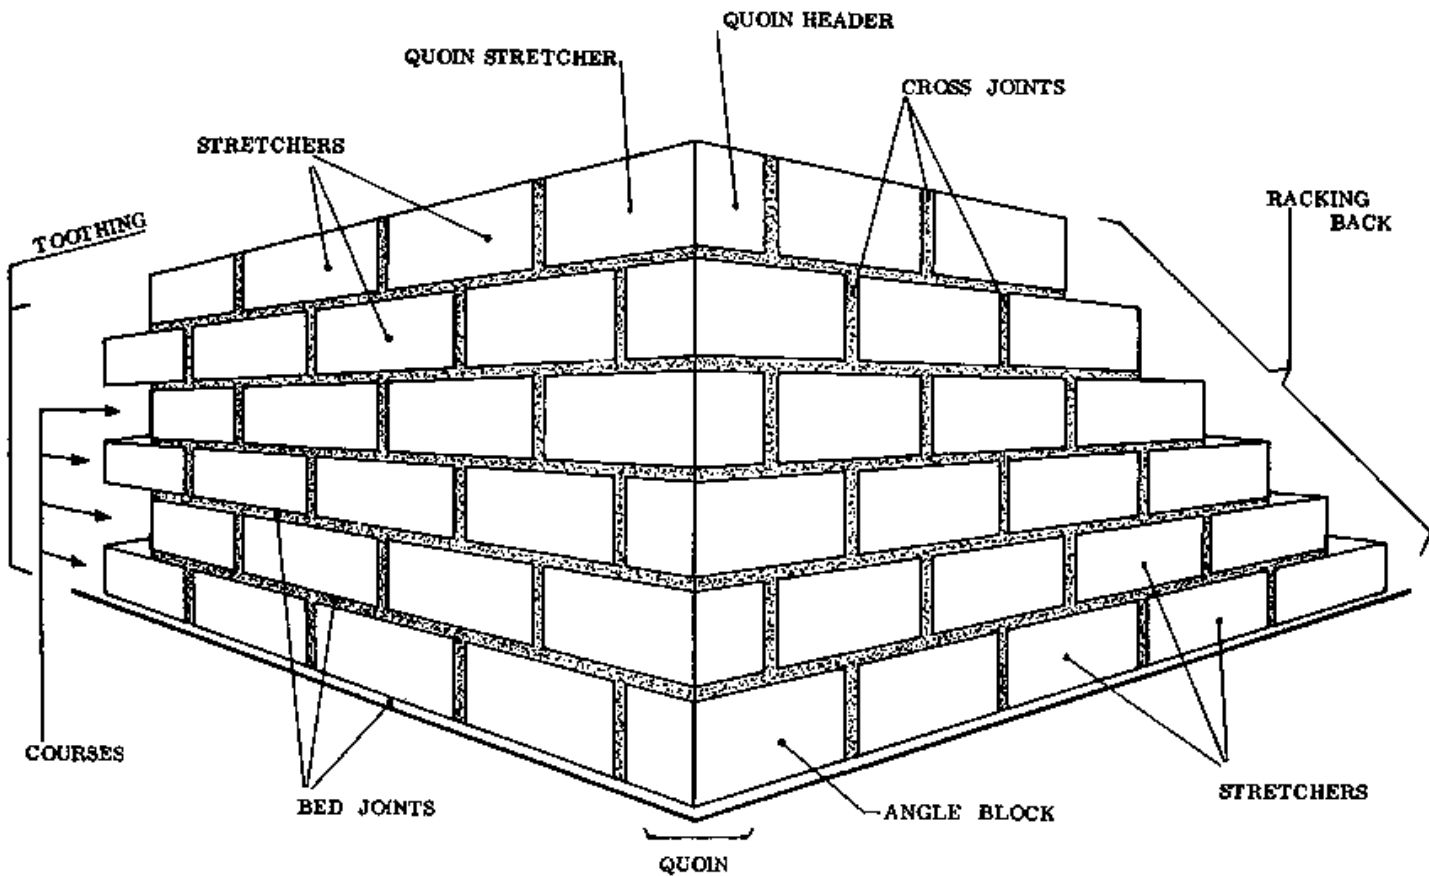

Fig. 1
– **HEADER:** A block is known as a header when it is placed in a wall so that its smallest face is exposed (Fig. 1, next page).
– **STRETCHER:** If the biggest face of a block is exposed, the block is called a stretcher (Fig. 1, next page). This is the way most blocks are laid in Rural Building, and we say that the block is laid edgewise. If a block is laid flatwise, so it is actually showing the top face, it is also called a stretcher (Fig. 1, next page).
– **COURSE:** This is the term applied to each layer or row of blocks, with the bed joint included (Fig. 1, next page).
- BED JOINT: This is the horizontal mortar joint between two courses (Fig. 1).
- CROSS JOINT: The vertical joints between the blocks (Fig. 1).
- QUOIN: The quoin is the outside corner of a wall or the external angle on the face side of the wall (Fig. 1).
- ANGLE BLOCK: This is the block which actually forms the corner in each course (Fig. 1).